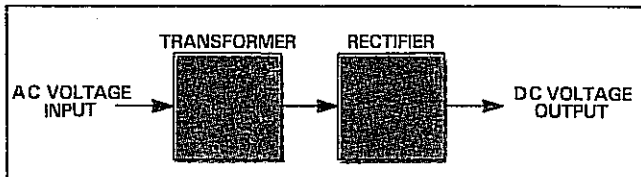

Figure 10. Simplified Block Diagram.
This is a two-step process. First, the 120 or 240 volt AC power is lowered to match the boat's DC voltage (typically 12, 24 or 32 volts). This is accomplished by a device called a transformer. Second, the reduced alternating current (AC) must be converted to direct current (DC). This is done by a device called a rectifier. See Figure 10.